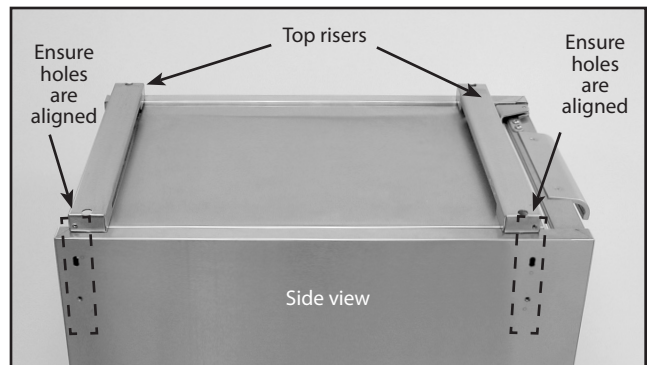

Fig. 10
- Place both top risers on top of unit as shown in Fig. 10.
7. Using the machine screws provided (10-24 X 1-1/8) attach risers to side panels. Take note of alignment of the holes on the riser and side panels (Fig. 10).